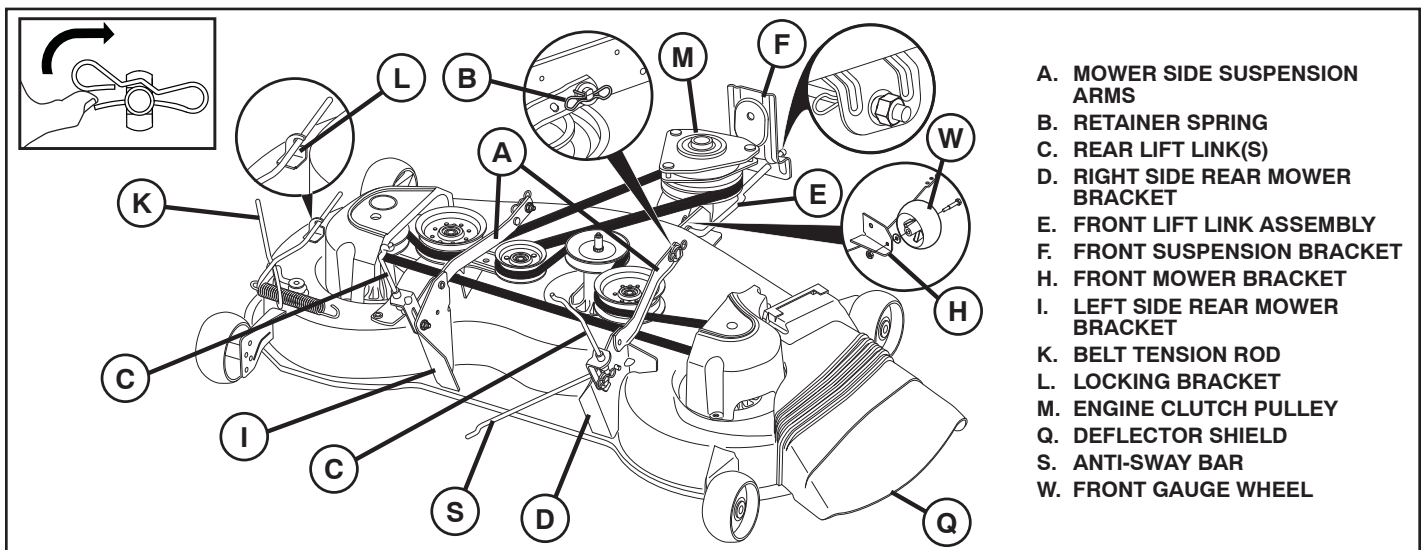

Fig. 19
## TO REMOVE MOWER (See Fig. 19)
## TO INSTALL MOWER (See Figs. 19 - 31)
## 9 INSTALL BELT ON ENGINE CLUTCH PULLEY (M) (See Fig. 19 & 31)
- Disengage belt tension rod (K) from locking bracket (L).
- Install belt onto engine clutch pulley (M).